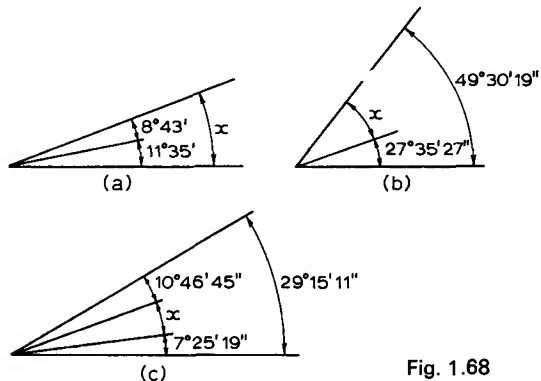

Fig. 1.68
10. Find the angles marked x in Fig. 1.68.